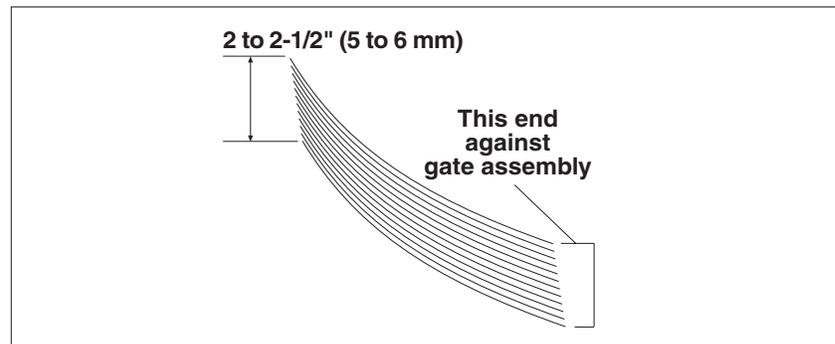

Figure 21. Preshingling a Small Stack of Material By Hand
1. Grasp a handful of material, approximately 2 to 2-1/2 in. (5 to 6 cm) thick, and preshingle the edges with your thumb (Figure 21).